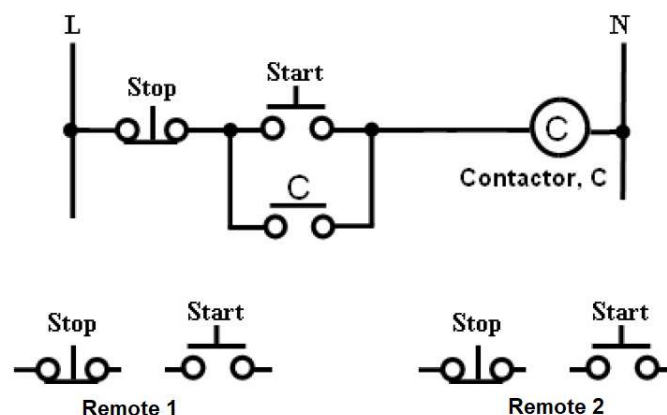

Figure Q4
- 4 Modify the control circuit shown in Figure Q4 to provide for additional remote Stop and Start in two other locations. (10 marks)